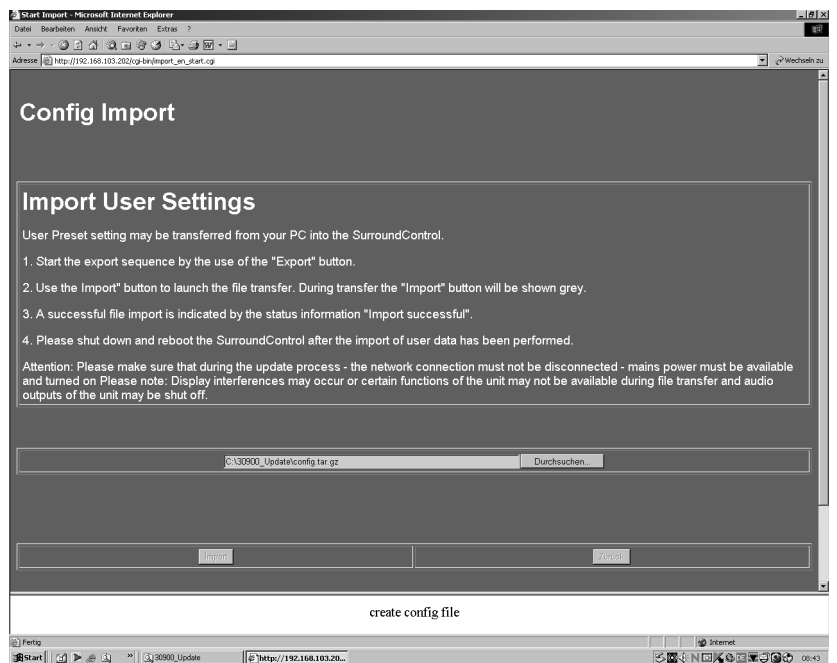

Fig. 5-22: The data transfer of the user settings is running
- Create config file is displayed while the transfer is running (see Fig. 5-22).